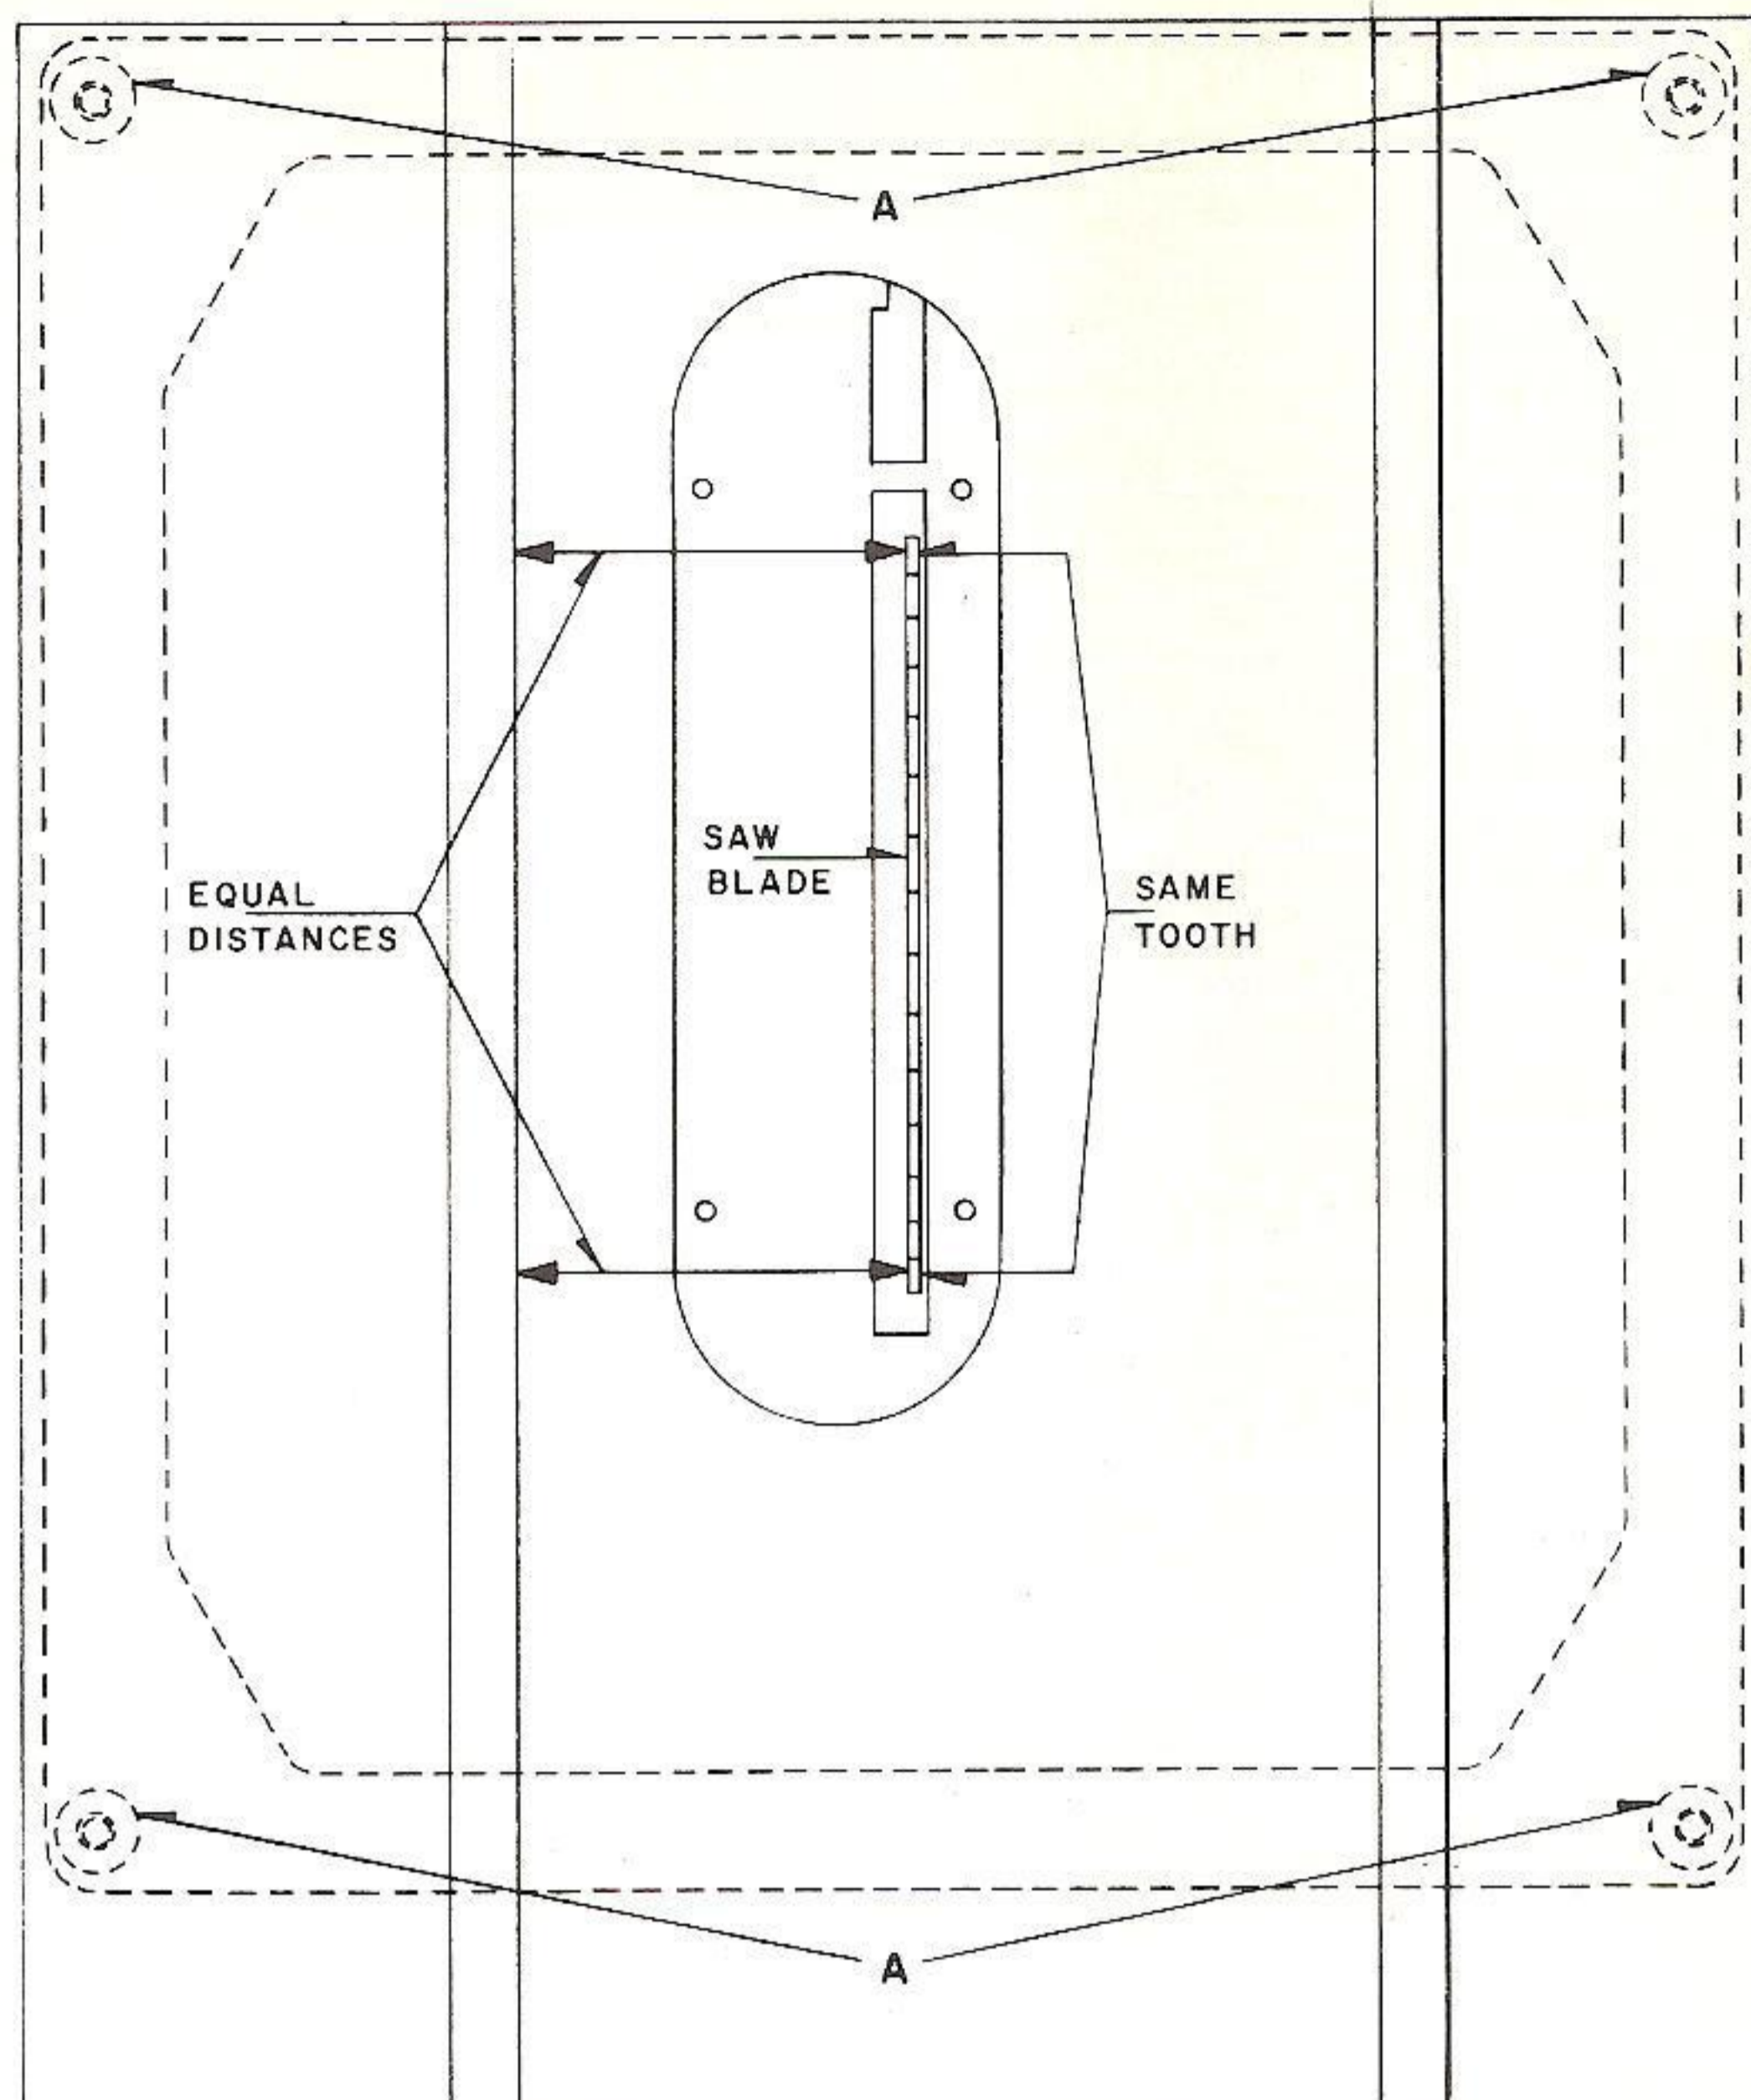

Fig. 23
Fig. 23, shows a simple method of checking the alignment. Be sure to make the test on the same tooth in both front and rear position. If an adjustment is necessary, loosen the four hexagon head cap screws (A) Fig. 23, which hold the table to the top of the gusset of the cabinet, and shift table at front or rear until a position is found which brings the saw blade in the center of the insert slot and parallel to the miter gage slot. Tighten the screws securely to prevent the table from shifting.